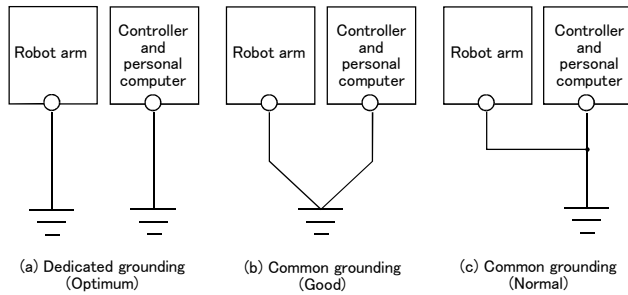

Fig.2-6 : Grounding methods
- 1) There are three grounding methods as shown in Fig. 2-6, but the dedicated grounding (Fig. 2-6 (a)) should be used for the robot arm and controller when possible. (Refer to the separate "Controller Setup, Basic Operation and Maintenance" for details on the controller grounding.)